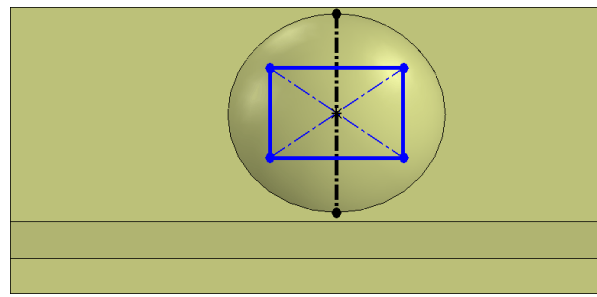

Fig. 44
Step 6. Sketch center rectangle at **midpoint**  of centerline, **Fig. 44**.